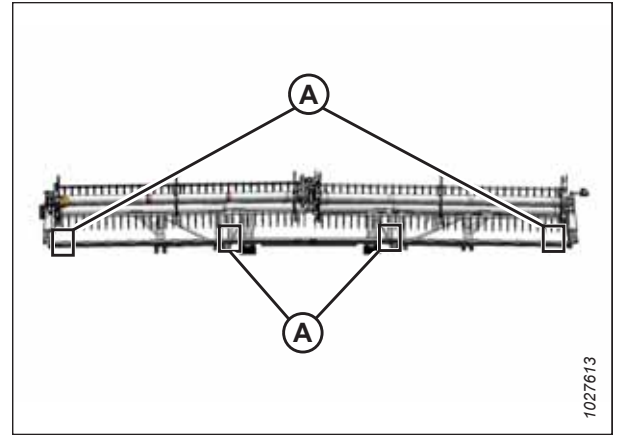

Figure 4.281: FlexDraper® Measurement Locations – Double Reel
- Double-reel headers: Figure 4.281, page 439